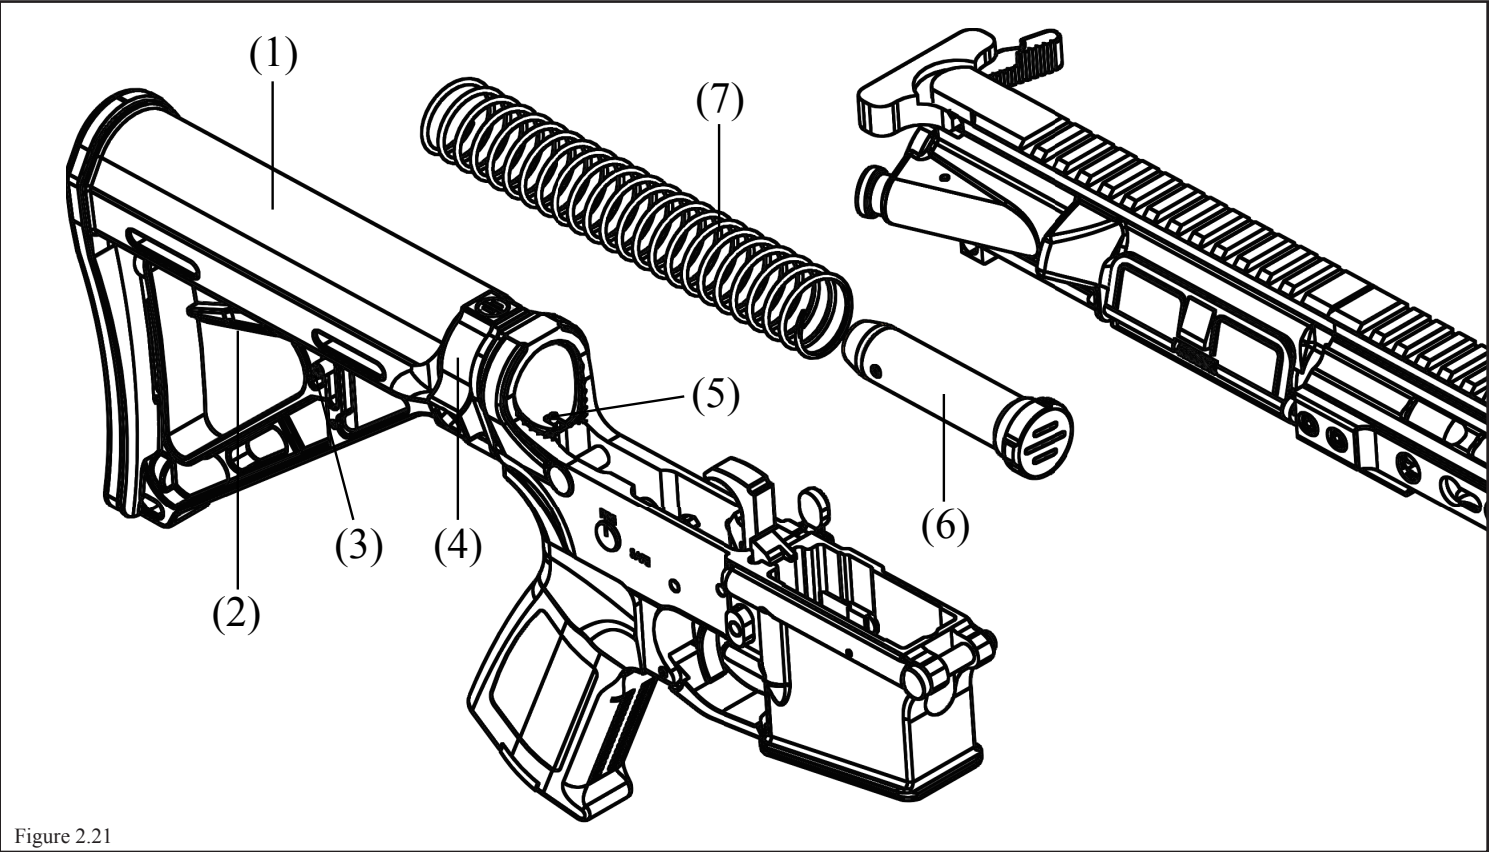

Figure 2.21
1. Inspect buffer assembly (Fig. 2.21, 6). If cracked, replace.
2. Check free length of buffer spring (7). Free length should be 10 9/16 inches (26.83 cm) minimum to 11 inches (27.9 cm) maximum. If not, replace. Do not attempt to adjust the length by stretching the buffer spring.
1. Press buffer spring (Fig. 2.21, 7) and buffer assembly (6) in to the buffer tube until buffer retaining pin engages.
2. Slide buttstock (1) over buffer tube (4). Pull down on lock release lever (3) and slide stock all the way forward.